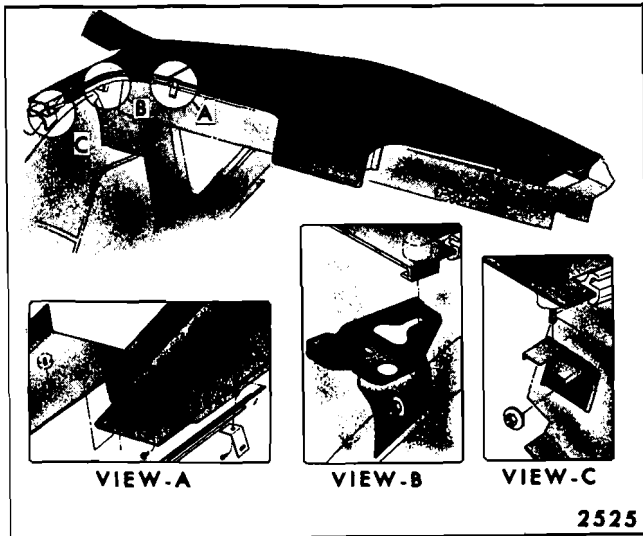
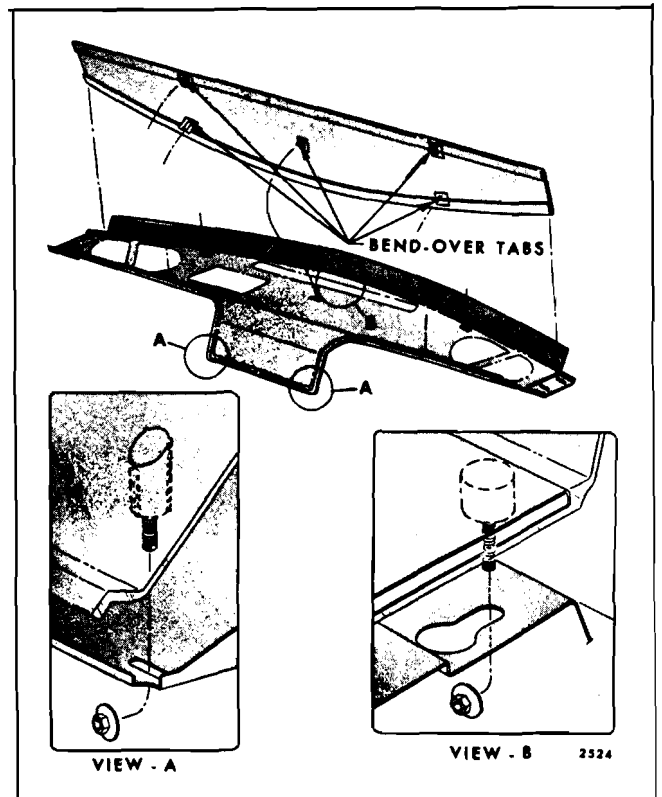

Fig. 14-43—Compartment Shelf Trim Panel -
Fig. 14-44—Compartment Shelf Center Trim Panel -
4. Remove rear compartment side panel attaching screws (View "A", Fig. 14-43). Loosen compartment shelf to metal foundation nuts as
indicated in View "C". Remove center section attaching nuts (View "A & B", Fig. 14-44 and View "A", Fig. 14-43).
6. To remove the center trim panel, bend metal tabs (Fig. 14-44) to straight down position and detach from shelf panel.